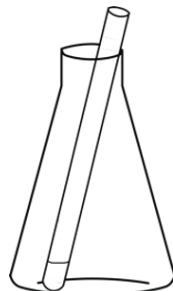

Figure 3. Bromine water test setup
**Procedure:** Place a small amount (0.5 to 1 mL) of the product into a test tube. Set the test tube into a 125-mL Erlenmeyer flask (see Figure 3). Bring your test tube, nestled in an Erlenmeyer flask, to the bromine testing station and **your instructor will add a few milliliters of aqueous Br2 solution**. Remove the test tube and carefully swirl the contents to mix. Record your observations about the appearances of your product, Br2 solution, and the test tube contents after the test is complete.